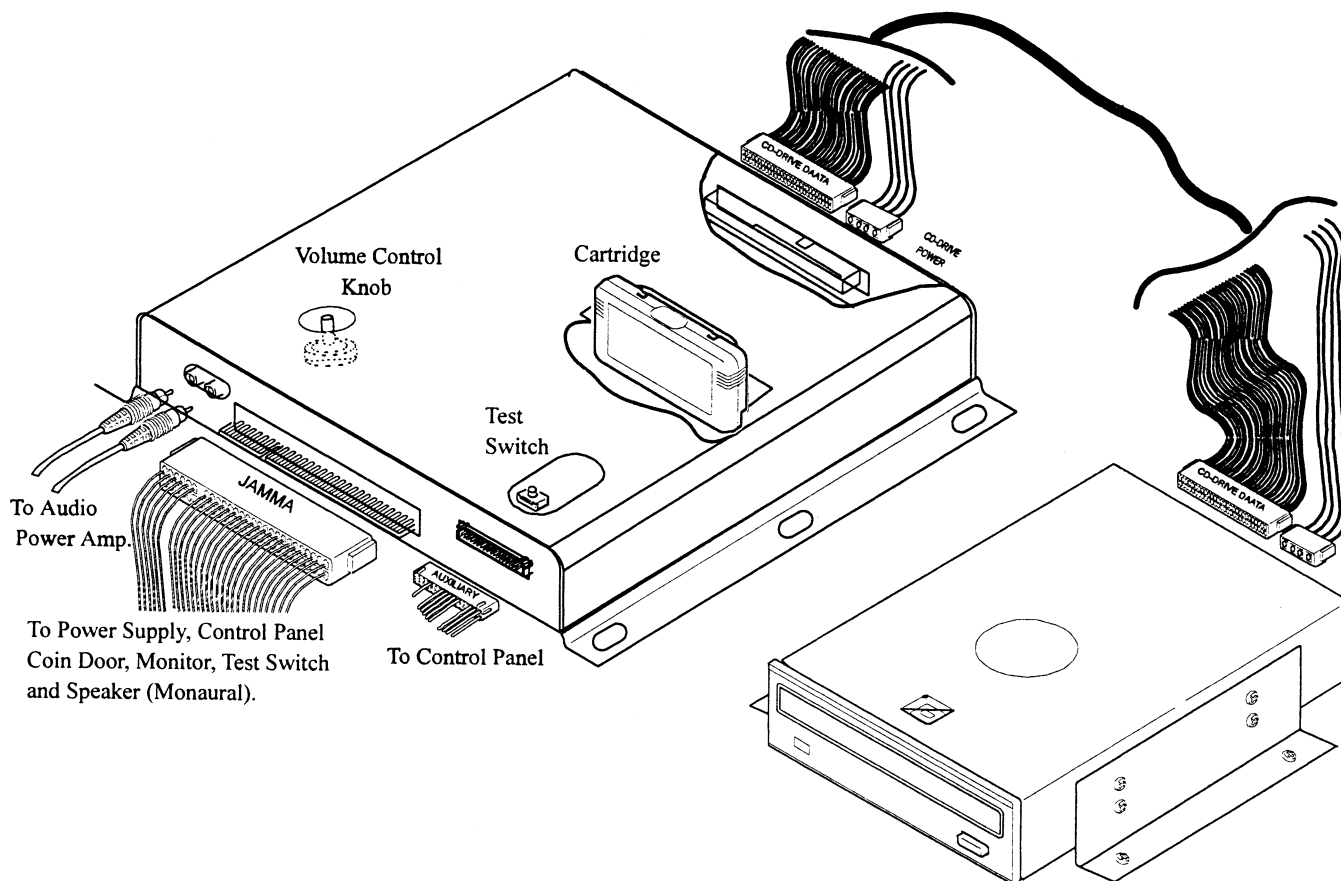

Figure 11: PC Board and CD-Drive cable connection
27. Attach Power and Data Cable to CD-Drive. Connect other end to SCSI combination connector on the main PCB (Figure 11).
28. Connect the JAMMA harness connector to the edge connector on the PC Board (Figure 11).
29. Attach the auxiliary cable connector to the PC Board. (Figure 11).
31. If you elect to use Q_Sound Audio Amplifier, connect audio cable to audio output on the PC Board. (Figure 11).